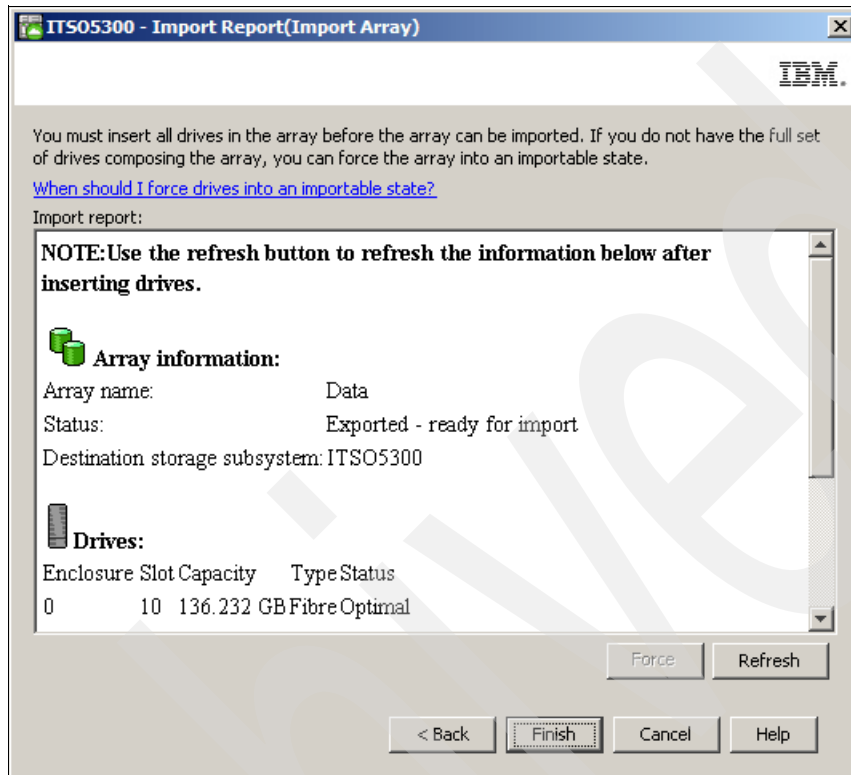

Figure 7-45 Import Array window
2. Click **OK** only if you are sure that all the drives making up the array are the ones that you really want to import (and that they were already correctly exported and removed from the source DS storage subsystem). The Import Array window is displayed, as shown in Figure 7-45.